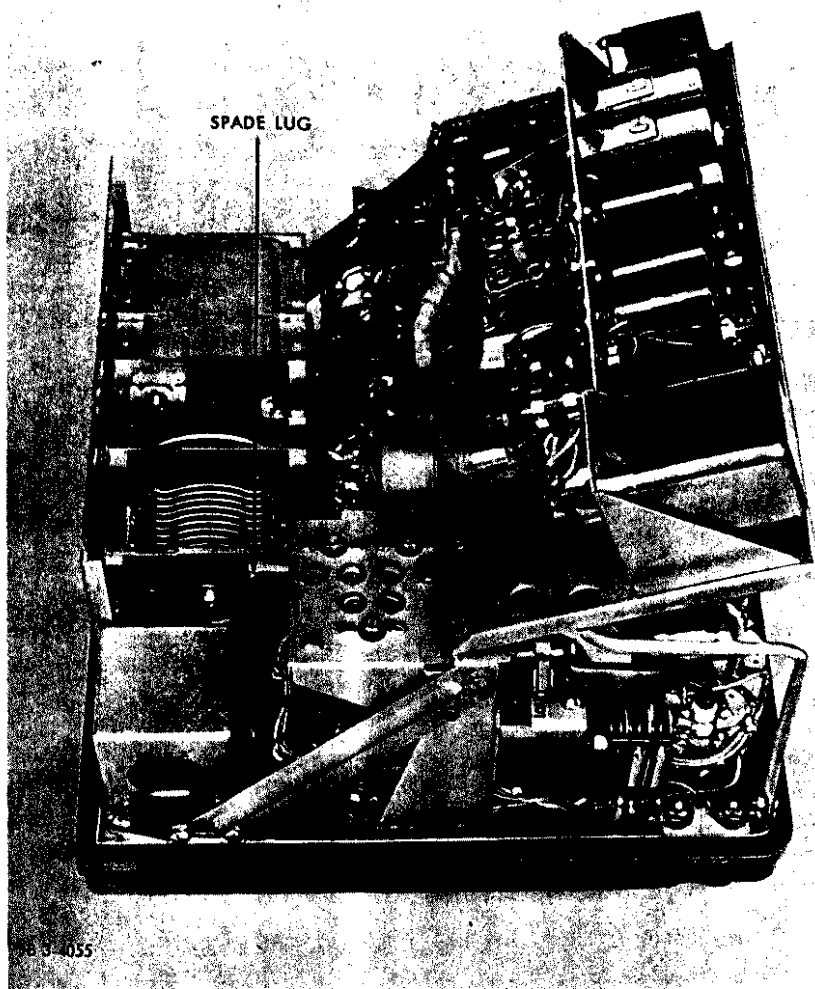

Figure 99. Back panel of transmitter shown swung up to expose tuning capacitor.
c. Swing up the hinged back panel of the transmitter to allow exposure of the main tuning capacitor as in figure 99.
d. Remove the spade lug on the side of the tuning capacitor shown in figure 99.